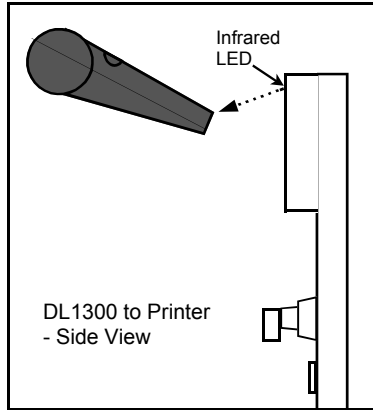
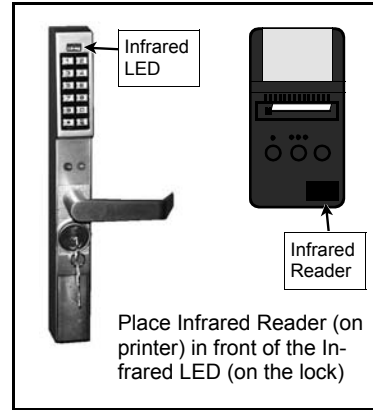

Figure 1
Figure 2
Hold the printer's infrared reader in front of the lock's infrared LED as shown in Figure 1 and Figure 2 below. If the printer has been idle for some time, press the paper feed button to wake up the printer.
Hold the printer over the lock's infrared sensor as shown in Figure 1 and Figure 2 above. Twenty (20) events will print at a time; press 1 for more events, or 9 to quit. To abort printing, press any key for 3 seconds (three short beeps will sound).
Hold the printer over the lock's infrared sensor as shown in Figure 1 and Figure 2 above. To abort printing, press any key for 3 seconds (three short beeps will sound).
Hold the printer over the lock's infrared sensor as shown in Figure 1 and Figure 2 above.